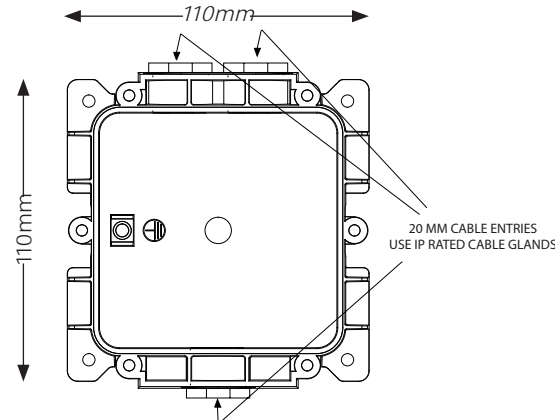

Fig. 1 Backbox
- Place the earthing plate behind the backbox, if required (see Earth continuity plate section). Fit the backbox to a flat surface using the four fixing holes. The cable entry holes should be in the vertical plane. The backbox can be mounted with either the single or double entry holes at the top Fig. 1).